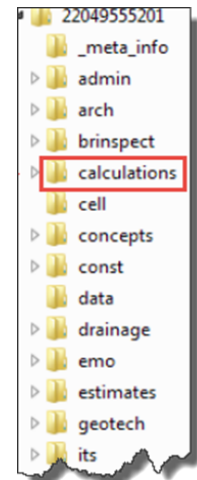

Figure 1 -
- (1) Ensure all revised **Plan Summary Boxes** are included in the **Final As-Built Plans** per **CPAM 5.12**.
- (2) Ensure all **Plan Summary Boxes** are updated with all additions, deletions, and changes to reflect the actual conditions of the project within 30 days of pay item closeout per **CPAM 5.12.8**. Place a red check mark in the final quantities column when there are no changes to the contract quantity. Enter the final quantity when the contract quantity differs from the final quantity.
- (3) Use red font color for any markups.
- (4) Reference all backup documentation by EDMS number in the Remarks column.
- (5) Use the Excel spreadsheets included in the **CADD\_[FPID].zip** or **BIM [FPID].zip file**, in the **Calculations** directory (see Figure 1) to add a new **Plan Summary Box** to the **Final As-Built Plans**. Refer to the CADD Manual. See Attachment 5.13-1.